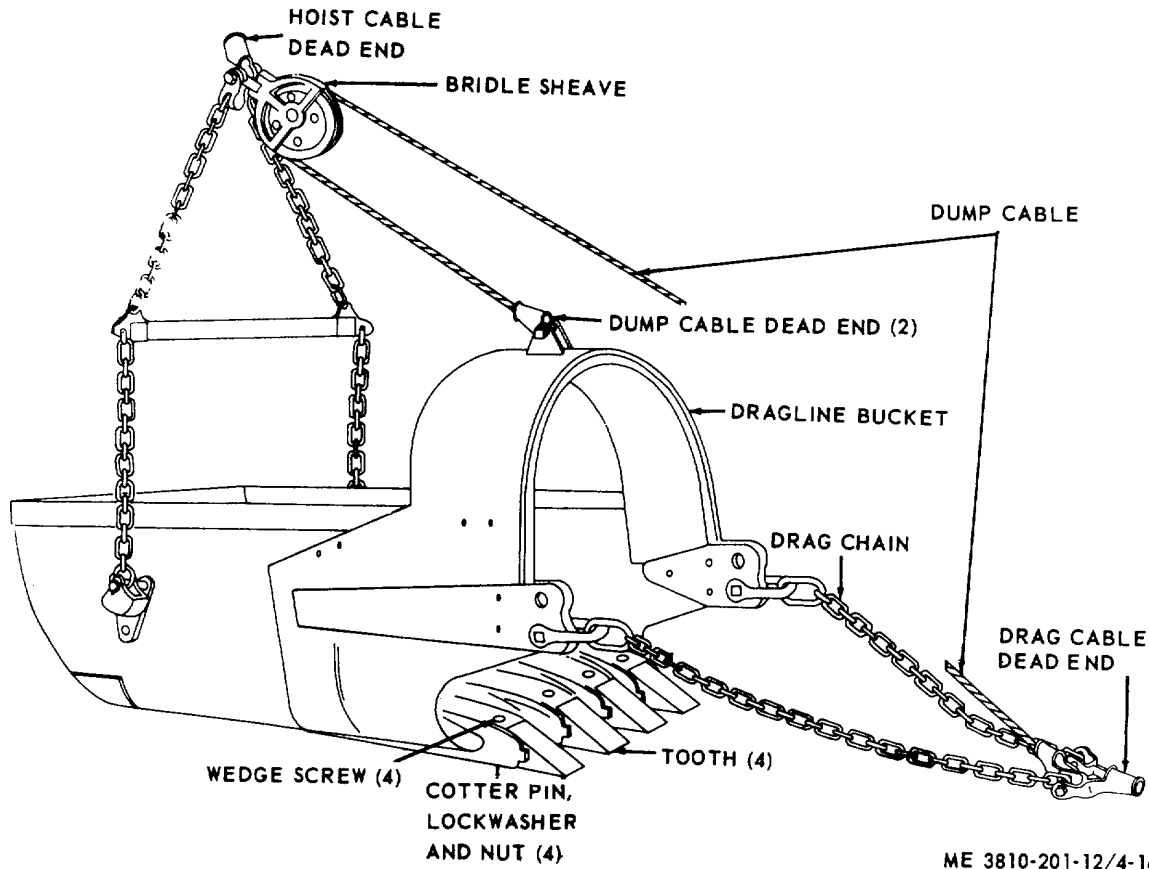

Figure 4-16. Dragline bucket, teeth replacement.
(1) Lower dragline bucket to ground then slacken hoist and drag cables.
(2) Remove drag, hoist, and dump cables from dead end (fig. 4-16).
c. *Installation of Bucket.* Reeve drag cable, hoist cable, and dump cable (fig. 2-12) and connect to dead ends (fig. 4-16).